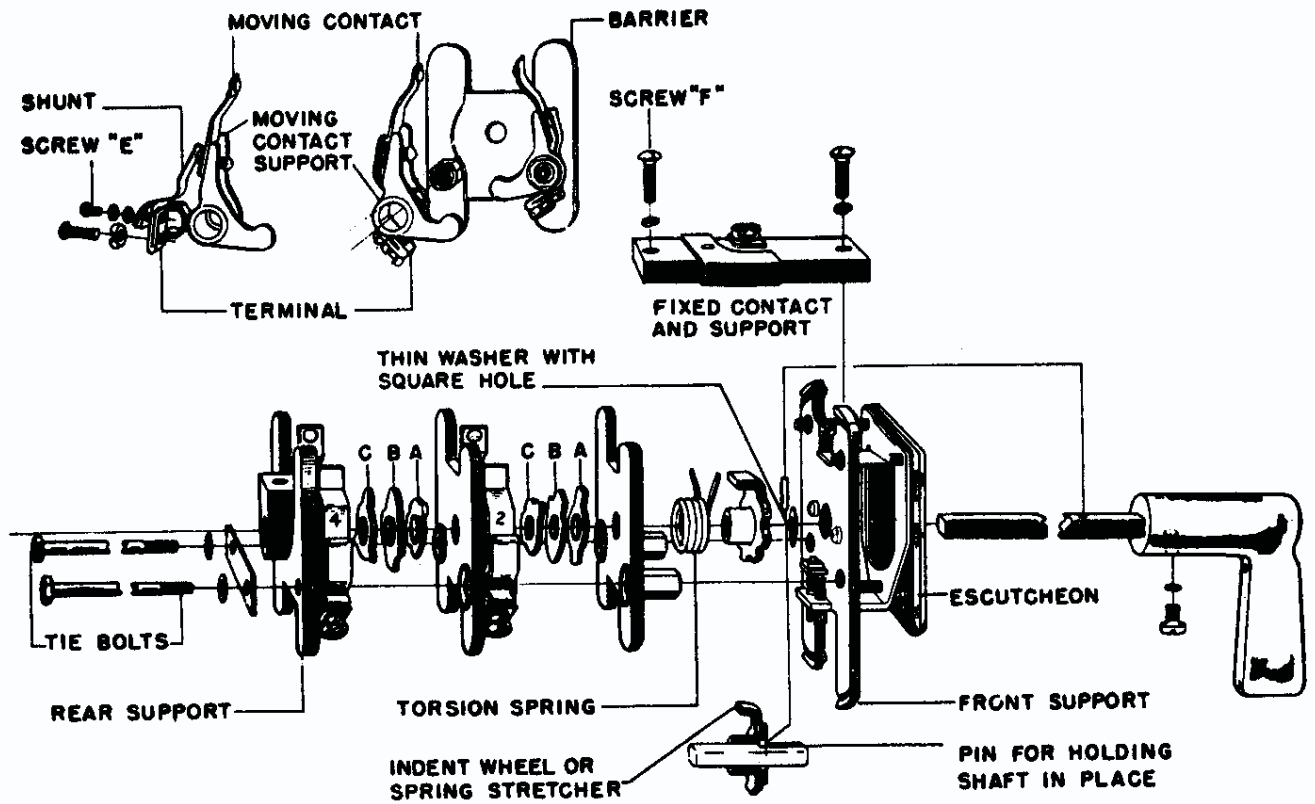

FIG. 5 (8009283) Exploded View of Type SB-1 Switch
All types of these switches are built up of individual stages, each nested into the other, plus a common fixed contact support, operating shaft, front support and rear support (see Fig. 5). The complete stack is tied together with two tie bolts threaded into the front support. Each rotary stage consists of an insulating barrier carrying one or two moving contacts, and two or three cams on the shaft which operates the moving contacts. A push-pull stage is similar to the rotary stage except only one cam is used. Each moving contact and its associated fixed contact on the fixed contact support constitute a complete switch contact.
Type SB-1 and SB-9 switches are rotary cam-operated switches. Rotation of the switch shaft causes contacts to close or open according to the shape and setting of the cams in the various stages. Each stage has one or two contacts with two or three cams. On drawings these cams are designated A, B and C (see Fig. 5). Cam (A) is the one nearest the panel and is the closing cam for the even numbered contacts. The (B) cam is next and is the opening cam for both contacts; cam (C) is farthest from the panel and is the closing cam for the odd numbered contacts. When a contact is omitted, its corresponding closing cam is omitted and a spacer substituted.
If a movable contact is burned, or has a broken shunt, replace the entire contact assembly. To do this, position the switch so the contact to be replaced is open. Remove screw (E, Fig. 5) and its clamping washer. Press in on the top of the contact to release the tongue at the lower end and pull the assembly upward and off (see Fig. 7).
Damage to a fixed contact requires replacement of the complete assembly of fixed contacts and support. Remove screws (F, Fig. 5), change assemblies and replace the screws. Operate the switch and check the contact alignment.
Before disassembling the switch, secure a drawing showing the cam arrangement in all the stages of the switch. Turn the switch shaft to the switch position corresponding to the cam arrangement. This is a twelve-o'clock position unless otherwise noted on the drawing. Remove the handle and fixed-contact support. Unscrew the tie bolts from the switch support, but leave them in the switch. Stand the switch on the bench, resting on the rear support, and slip the front support off the shaft being careful to hold the shaft in the switch so as not to pull it out of the cams in the rear stages. Do not lose the ball from the positioning device. Slide the shaft out just enough to remove the pin, through the shaft, which seats in the counterbore in the indent wheel or spring-stretcher (refer to Fig. 5). Do not slide the shaft out of the cams in the rear stage. Push the shaft back into the switch and slip off the indent wheel and thin washer that is assembled between the indent wheel and front support. Remove the first barrier to expose the cams for contacts No. "1-2".
On the drawing, the cams for each stage are usually shown in horizontal rows of three cams, or two cams and a spacer. Beside each horizontal row are the numbers of the contacts, such as "1-2", with which the cams are used. The vertical rows are lettered "A", "B", and "C". Cam (A) is the one removed first, working from the front end of the switch, cam (B) next, and cam (C) last (see Fig. 5). Unless otherwise stated, the position of the cams on the drawing are for the twelve-o'clock switch position.